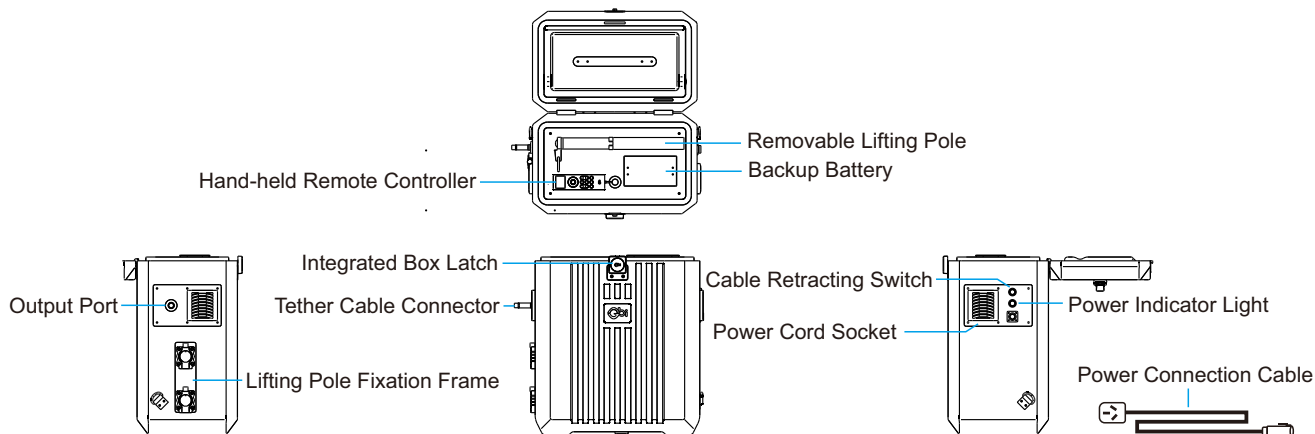

Figure 3: Schematic Diagram Of The Components Of The Tethered Box
a. Components Of The Tethered Box System (Refer To Figure 3)
- ① The Tethered Box: It mainly contains automatic cable retractor, tethering cable, handheld remote controller, backup battery, power connection cable, and detachable elevation pole.
- ② Tether Cable Connector: Used for connecting the integrated box to the lighting drone.
- ③ Tether Cable: Used for providing power to the drone and transmitting signals between the integrated box and the lighting drone.
- ④ Hand-held Remote Controller: Used for controlling the drone and lighting system.
- ⑤ Backup Battery: Used to provide temporary power to the lighting drone in case of a power outage in the mooring integrated box.
- ⑥ Power Connection Cable: Used to connect the external power supply.
- ⑦ Removable Lifting Pole: Used for restraining the tethering cable.
- ⑧ Lifting Pole Fixation Frame: Used to fix the removable lifting pole.